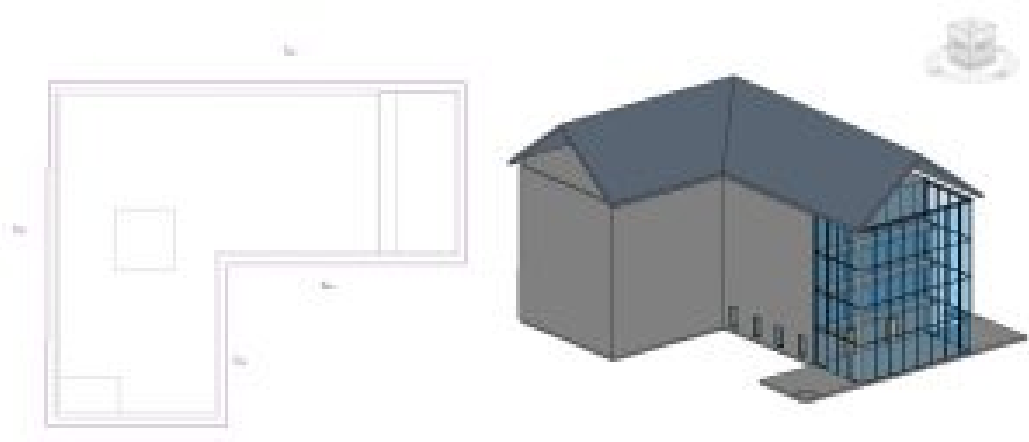

Figure 3.20 Roof outline in plan view and finished roof in 3D view
7. Draw or select lines to outline the building as shown in Figure 3.20
8. Select the four walls shown in Figure 3.20 and check the box next to Defines Slope in the Properties Palette